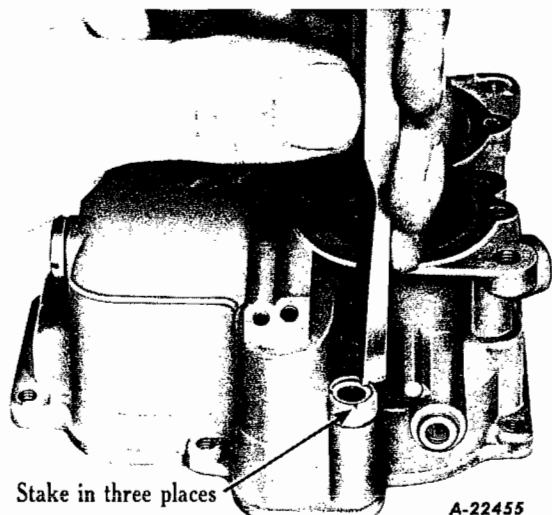

Fig. 66
2. Pump the operator rod and seal. Install a new felt seal and retainer washer and stake as shown in Fig. 66.